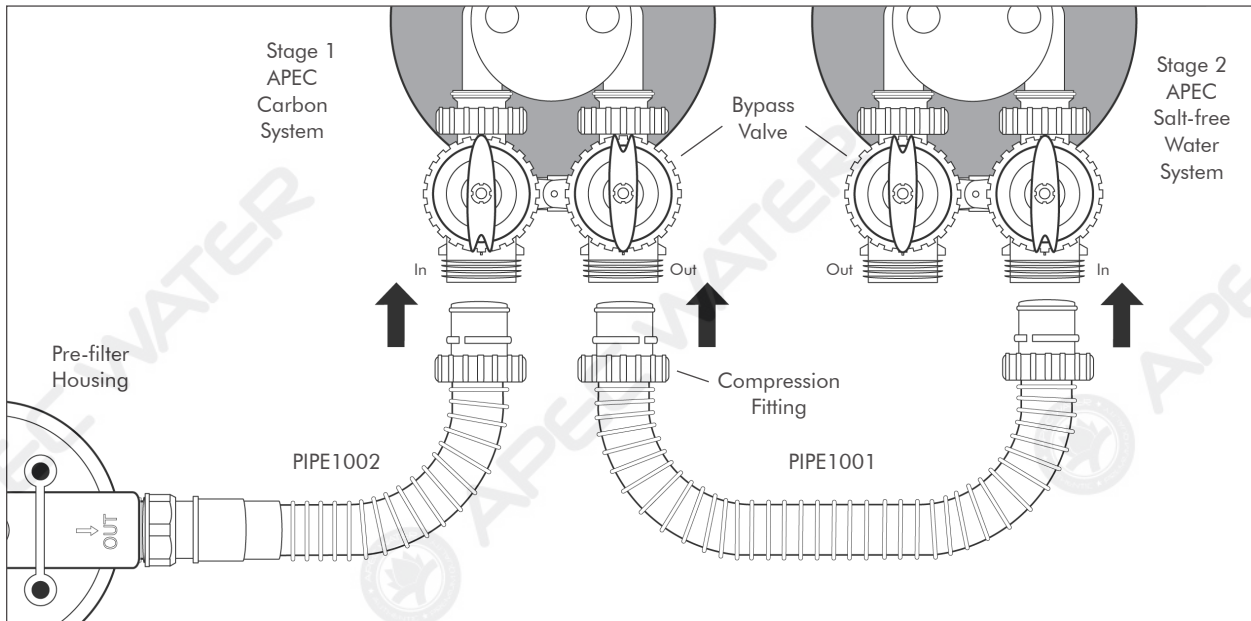

Fig.5
Step 3. Connect flexible pipe PIPE1002 from the Pre-filter Housing OUTLET, into the INLET of the bypass valve on the Stage 1 water treatment system, screw the compression fitting. See **Fig.5**.
Step 4. Connect PIPE1001 into the OUTLET of the Stage 1 bypass valve, and connect the other compression port into the INLET of Stage 2 bypass valve. Hand-tightening is recommended. See **Fig.5**.